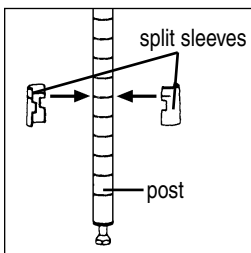

Figure 1a
- A. Snap plastic tapered split sleeves onto each post at the desired position for the 3-sided frame (see Figure 1a).